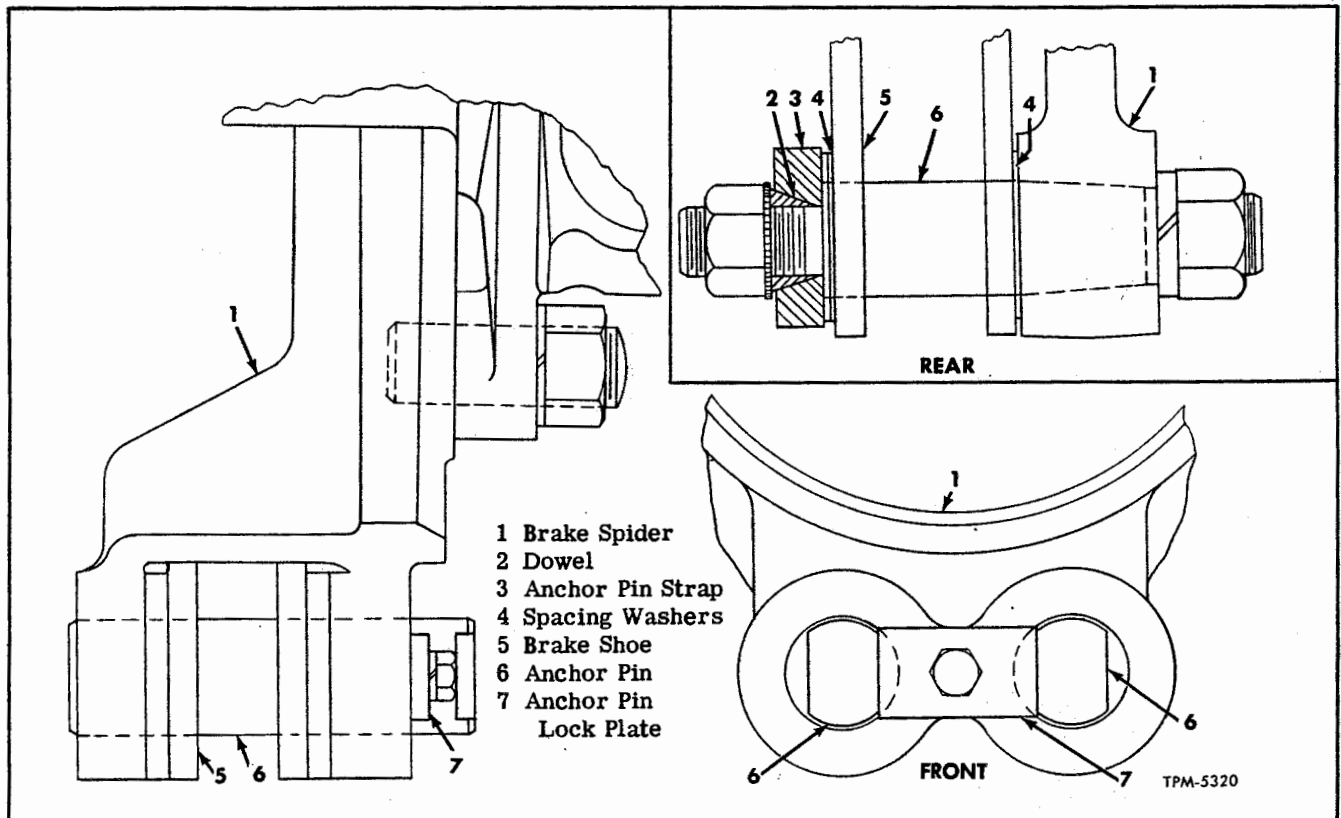

Figure 24—Front and Rear Brake Shoe Anchor Pins Installed
Anchor pin end of each shoe fits between brackets at brake spider, and is retained by straight type anchor pin (fig. 24). Both anchor pins are held in place by a lock plate which engages notches in end of each pin and is attached to brake spider by a cap screw.
3. Install brake shoes at brake spider in same position from which they were removed. Insert anchor pins through brake spider and shoes. Turn anchor pins so notches in inner end face each other. Install anchor pin lock plate and secure with cap screw and lock washer (fig. 24).
Heel of each brake shoe is carried on anchor pins which are installed in brake spider as shown in figure 24. Shoes are retained on anchor pins by a strap, two tapered dowels, two lock washers, and two nuts. Spacing washers are used as required to provide proper fit of shoe end between spider and strap.
anchor pin to take up clearance between shoe ends and anchor pin strap with strap against shoulder on pins (fig. 24). Do not use enough washers to cause shoe to bind when anchor pin nuts are tightened. Install strap, dowels, lock washers, and nuts on anchor pins and tighten firmly. Make sure shoes do not bind on pins.